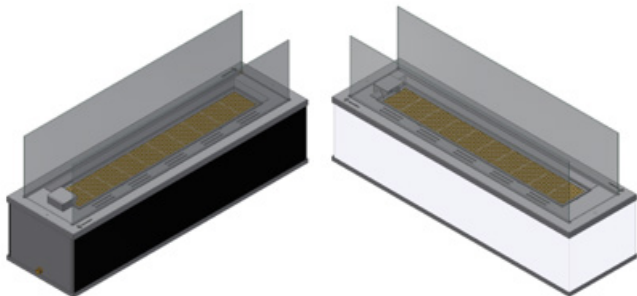

Fig. 7. White and Black Glass Decorative versions
- Remove the glass according to the instructions on page 18, arrange the decorative elements evenly on the burner according to the graphic (fig. 7), then reinstall them.